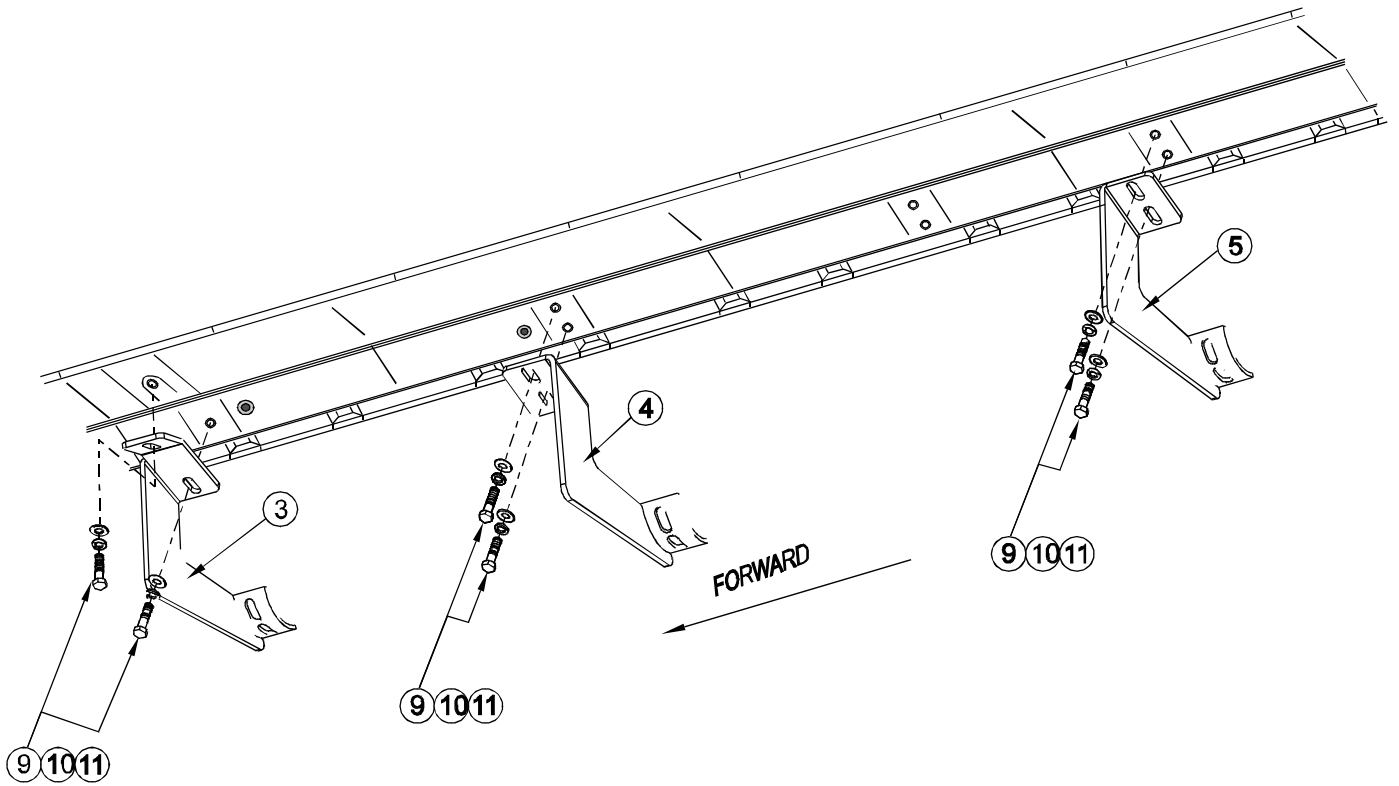

FIGURE 1 PASSENGER SIDE SHOWN
- STEP 2.** Attach passenger side brackets to underside of body panel using two M8-1.25 x 30mm hex head bolts, M8 flat washers, and M8 lock washers per bracket. Hand tighten. **SEE FIGURE 1.**